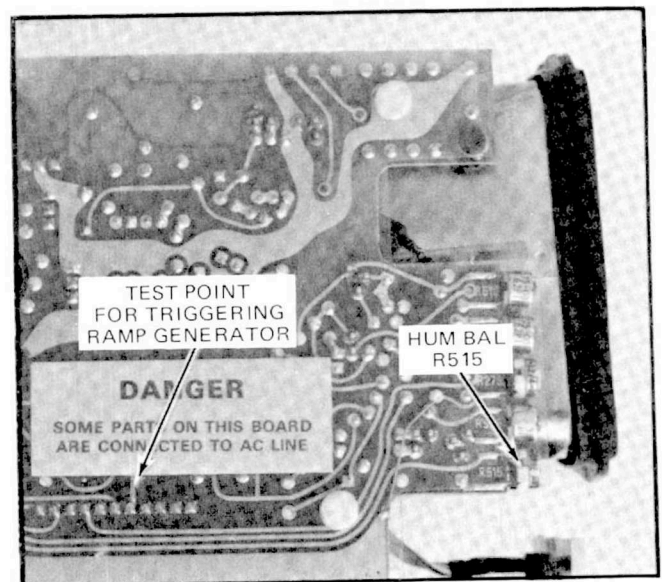

Fig. 4-5. Location of Hum Balance adjustment, and external trigger test point for ramp generator.
- g. Connect a X1 probe from the External Input jack of the Ramp Generator to the test point shown in Fig. 4-5.